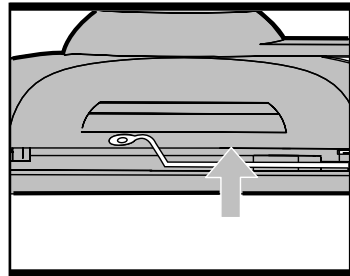

Fig 3.1
To remove the sanding paper, lift up the clamp lever (8) and move away from the clamp lever lock (9) (See Fig 3.1). The sanding paper clamp (6) is now loose. Repeat with the other clamp on the opposite side of your sander. To fit new sanding paper, insert approximately 5mm of one end of the sanding paper under the sanding paper clamp (6) until the paper contacts the housing wall (See Fig 3.2). Lift up the clamp lever (7) and move it to the lever lock position. Press the sanding paper around the baseplate shape as tight as possible and fix the end under the other sanding paper clamp (6). Check the sanding paper is square to the baseplate and remove and refit it if not correct. Always, ensure the sanding paper is tight over the baseplate and secured underneath both locked clamps (6). This will ensure safe and efficient sanding performance.